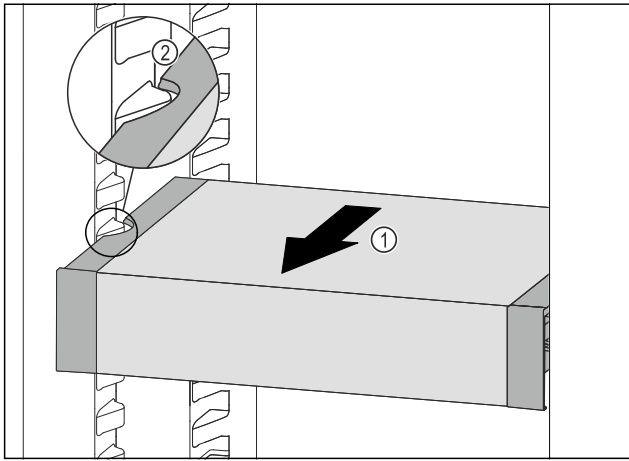

Fig. 142
- ▶ Pull VarioSafe forwards Fig. 142 (1) until the recesses in the side of the VarioSafe are at the level of the support rib in the fridge section. Fig. 142 (2)